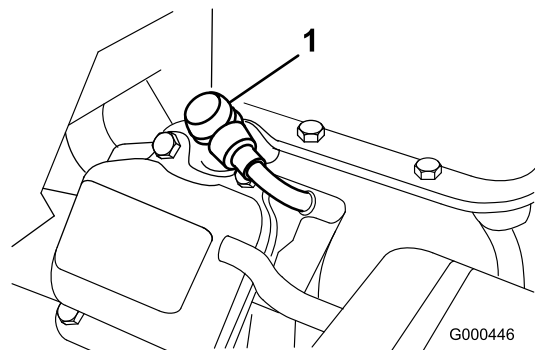

Figure 20
1. Pull the molded wire off of the spark plug (Figure 20).